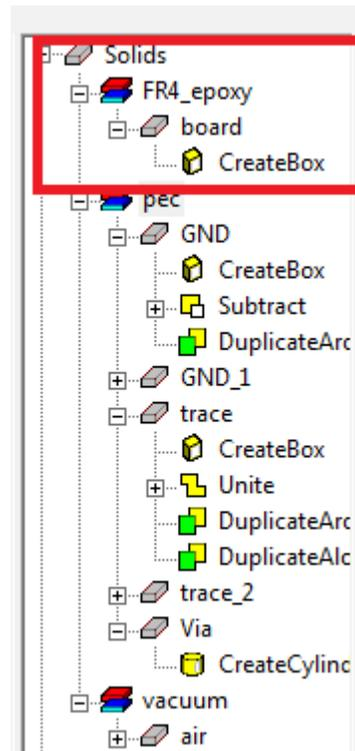
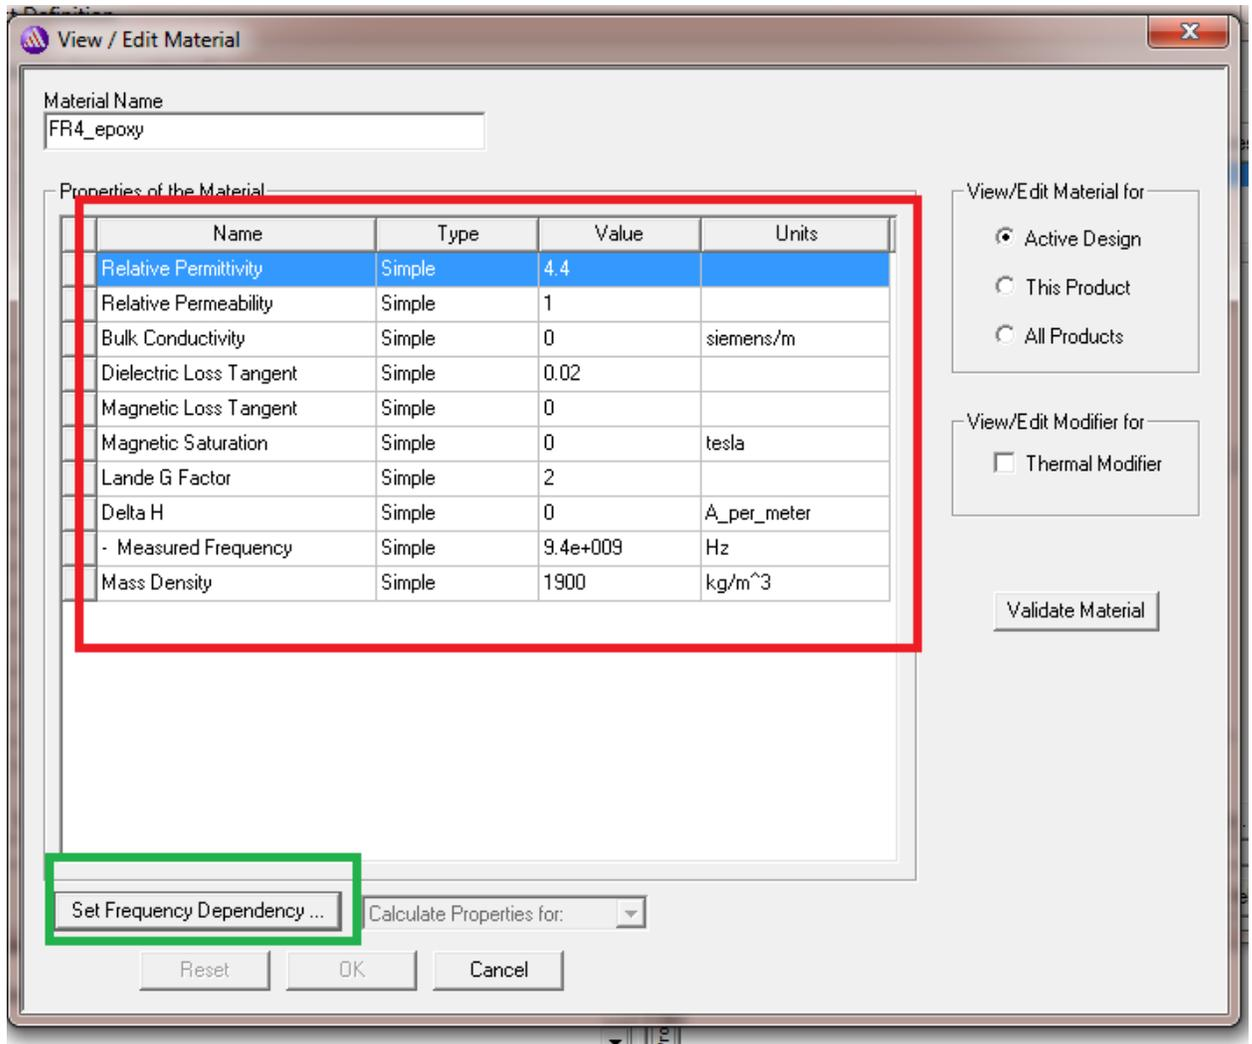

Figure 3. Assign FR4\_epoxy to board
Figure 4. Material properties of FR4\_epoxy
**Modify the material property for the board:** on the **modified design** (with the rotation), assign **FR4\_epoxy** to the board in replace of the vacuum as shown in Figure 3; to view the material properties of FR4\_epoxy, you can select **View/Edit Material** and the material properties are highlighted in the **red** box as shown in Figure 4; you can also assign frequency-dependent material properties as that in the **green** box in Figure 4; you are not required to use the frequency-dependent material properties in this homework.; **hand in your plots for  $S_{11}$  and  $S_{21}$  versus frequency.**